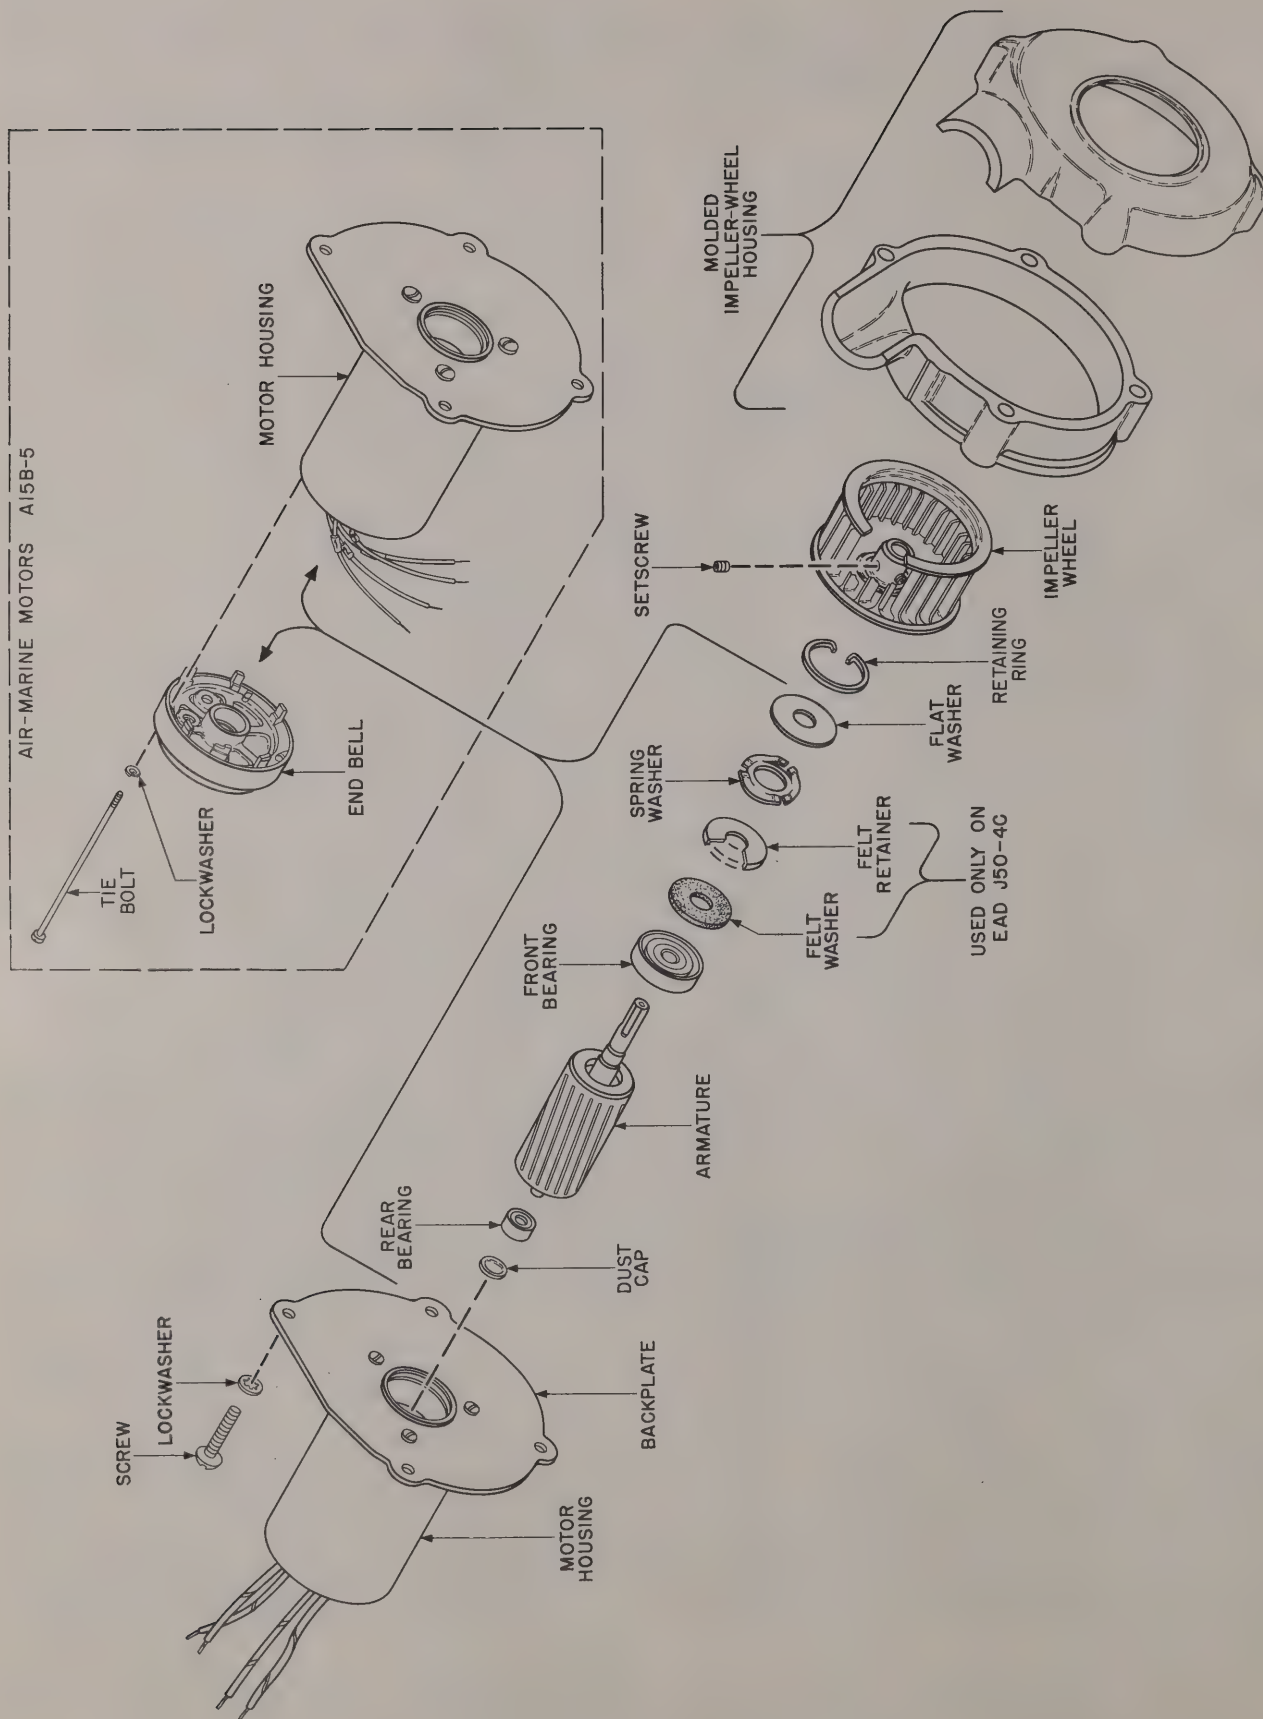

Figure 7-16. Blower BL301, Exploded View
d. BLOWER-MOTOR BEARINGS.—Radio Receiver R-482/URR-35 is supplied with one of three completely interchangeable types of blowers, all designated BL301. However, while the complete blower assemblies are interchangeable, the motor bearings employed in each are not. The following procedure, which covers the replacement of these bearings, is applicable to all three types of blowers unless otherwise stated; refer to figure 7-16 while disassembling and reassembling the blower.
(1) Remove the blower, in accordance with steps (1) through (5) of paragraph 6b, this section.
(2) Take off the molded impeller-wheel housing by removing the four screws and lockwashers which secure it to the backplate.
(3) Remove the impeller wheel from the motor shaft by inserting an Allen wrench between the blades of the wheel and loosening the two setscrews in the hub.
(4) Remove the armature as follows: